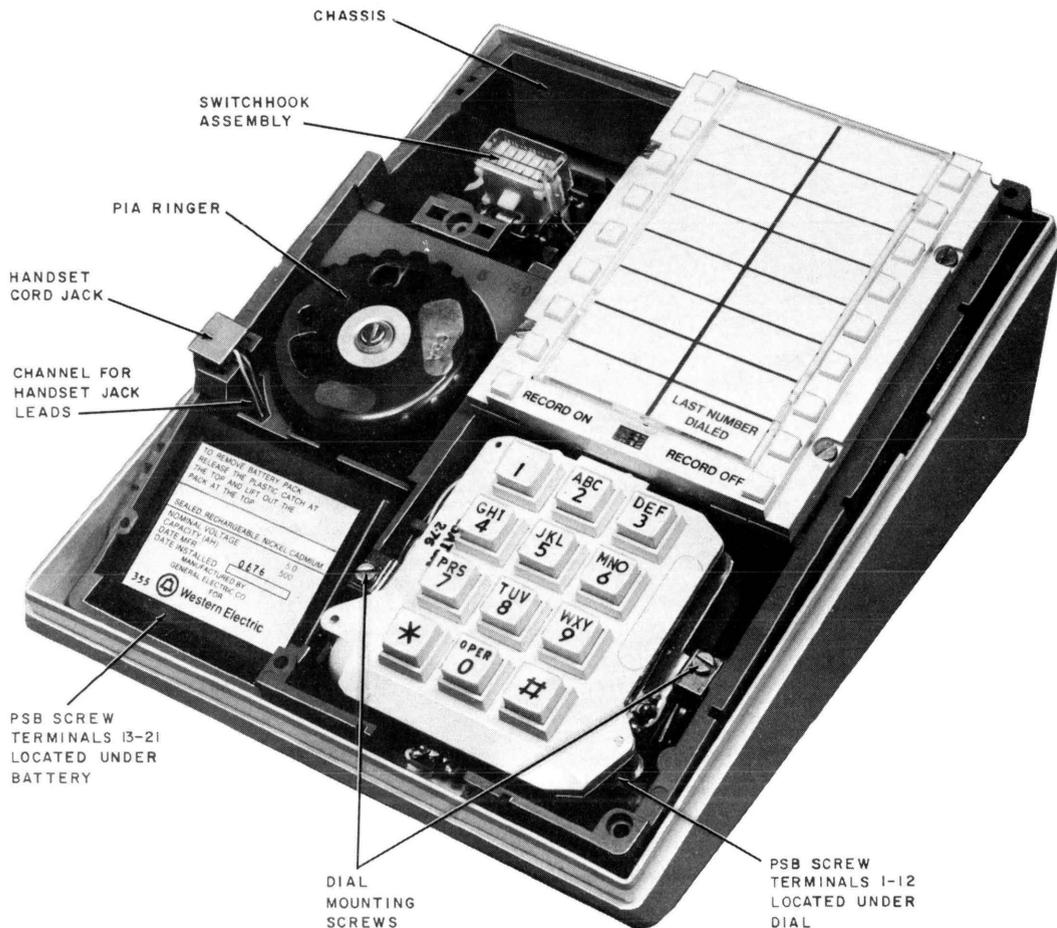
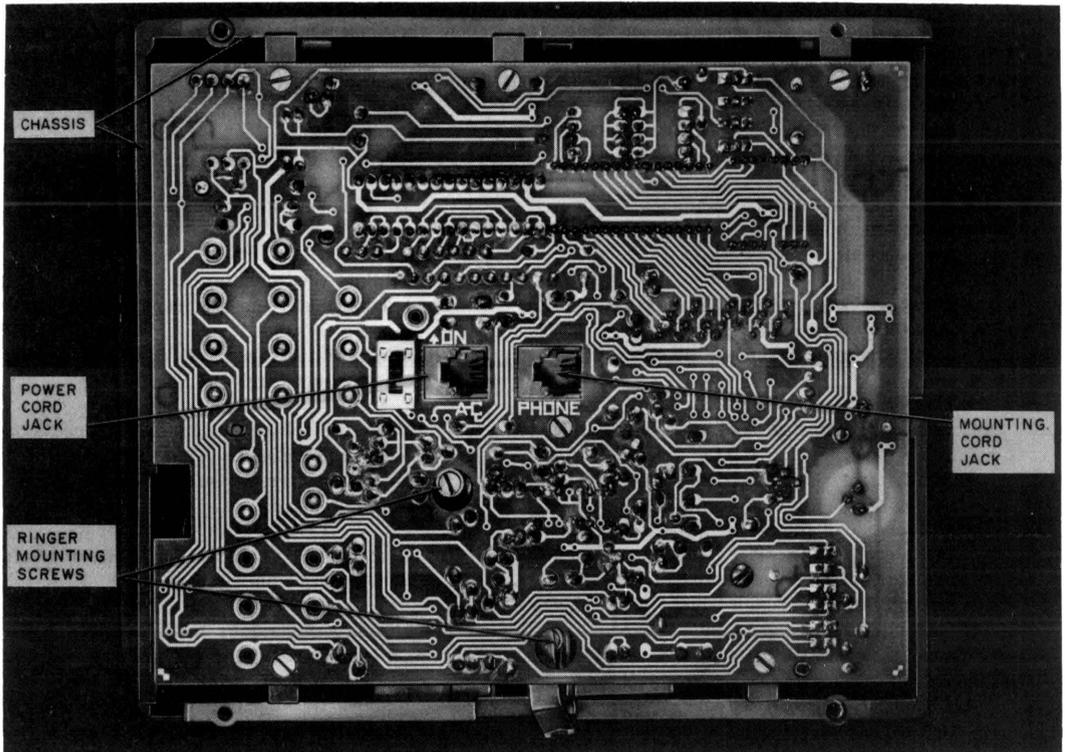

Fig. 5—2960A01M Telephone Set With Handset, Faceplate, Shield, and Upper Housing Removed
Fig. 7—Bottom View of Power Supply Board (Lower Housing Removed)
- **Battery**—snaps into a cavity on the top side and left front corner of the chassis (Fig. 5).
- **Ringer**—fastened by two screws to bosses on the bottom of the chassis (Fig. 7) and rests in a cavity just to the rear of the battery cavity (Fig. 5).
- **Handset Jack**—slides into a cavity on the top left side wall of the chassis adjacent to the ringer and battery (Fig. 5).
- **Switchhook Assembly**—soldered to power supply printed wiring board and located at left-rear corner of power supply board (PSB) (Fig. 5).
- **Power Supply Printed Wiring Board Assembly**—fastened by six screws to bosses on the bottom of the chassis (Fig. 7).
- **Power Supply Printed Wiring Board Screw Terminal Areas**—(Fig. 5 and 6).
- **Chassis**—main structural member to which other component assemblies are fastened, including the upper and lower housings (Fig. 5 and 7).